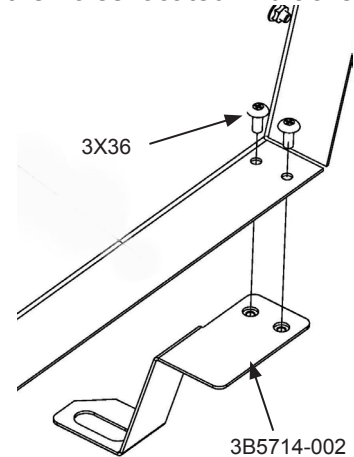

Fig. 2
- C. Place the cargo barrier into the vehicle behind the second row seating area. Stand the barrier up and position the mounting holes in the lower portion of the barrier with the holes located in brackets 3B5714-001/002. Secure the barrier to the lower support brackets using the included 3X03 phillips head screws (Fig. 2).